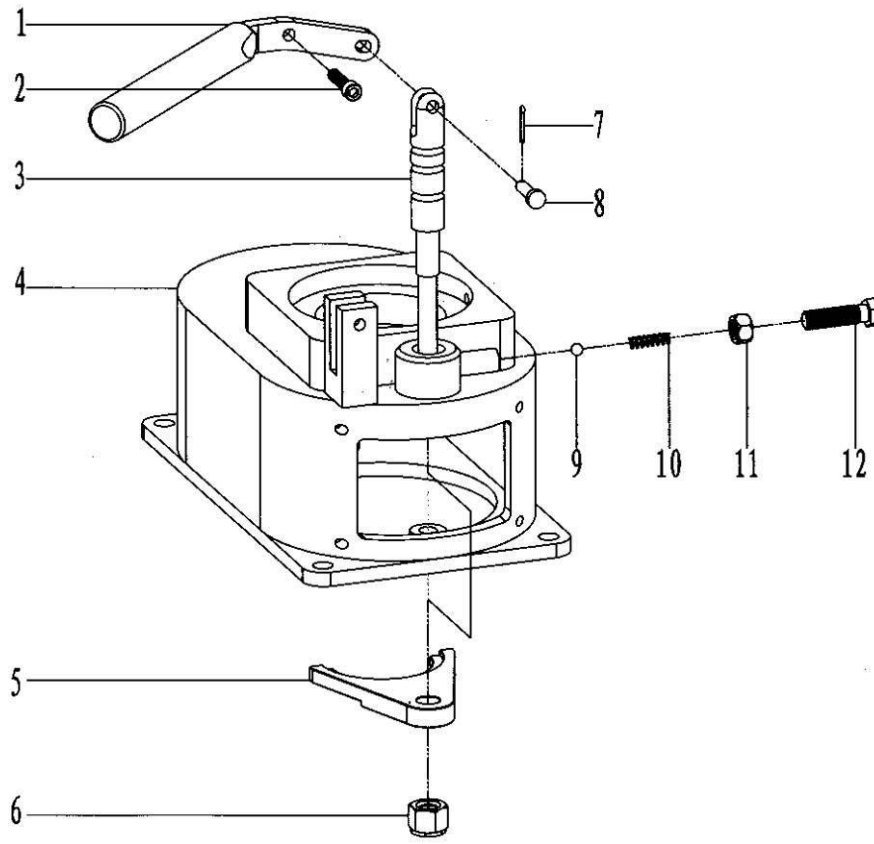

Fig 9
7.9 Gear shifting assembly(upper) (Fig 9. Table 9)